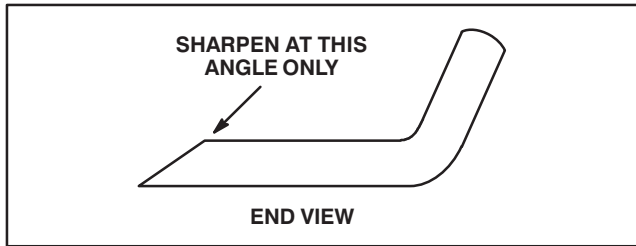

Figure 29
5. Inspect cutting edges of all blades. Sharpen the cutting edges if they are dull or nicked. Sharpen only the top of the cutting edge and maintain the original cutting angle for best performance (Fig. 29). The blade will remain balanced if same amount of metal is removed from both cutting edges.